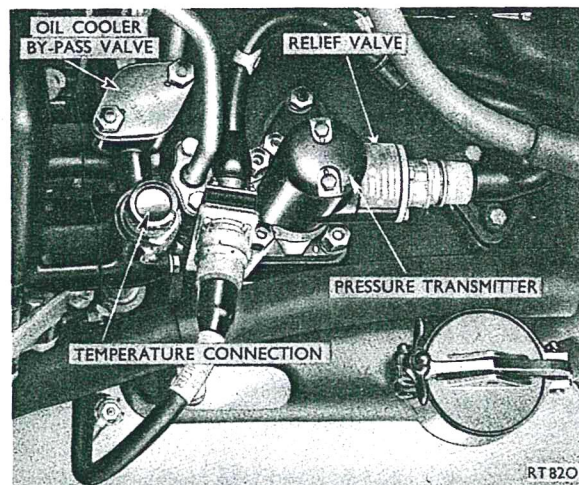

Fig.2 Oil pressure transmitter
10. Both the oil pressure relief valve and the oil cooler by-pass valve are removed by unscrewing the two nuts securing the two covers, illustrated in fig.2, and withdrawing the relief valve assemblies complete.